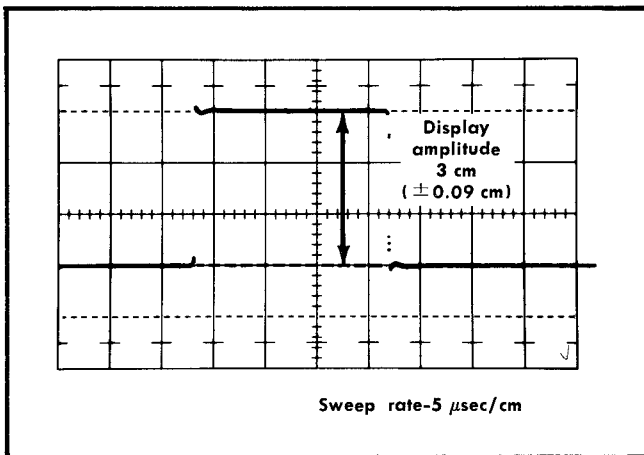

Fig. 5-37. Typical indicator oscilloscope display for checking adjustment of VERT GAIN control.
- f. Position the waveform with the DC OFFSET control so the baseline is on the graticule line 1 cm below the horizontal centerline (see Fig. 5-37).